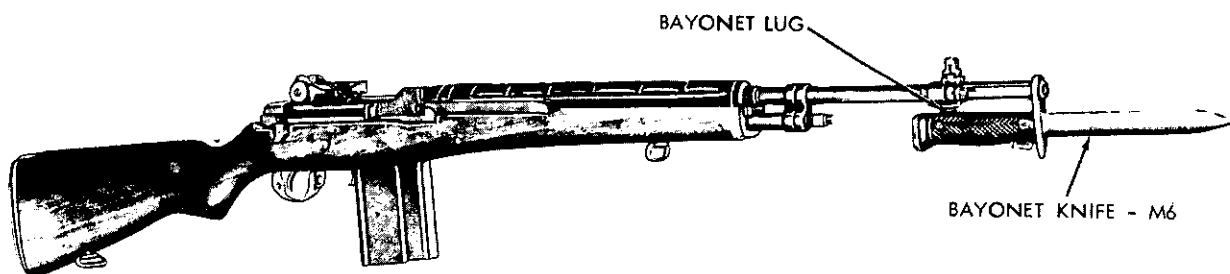

Figure 53. M14 rifle with bayonet knife.
a. Installation. Install the bayonet knife to the rifle by aligning the groove of the bayonet handle with the bayonet lug on the flash suppressor and the loop of the top portion of the handle on the flash suppressor. Slide the knife rearward until the lugs of the latching lever snap over the bayonet lug (fig. 53).